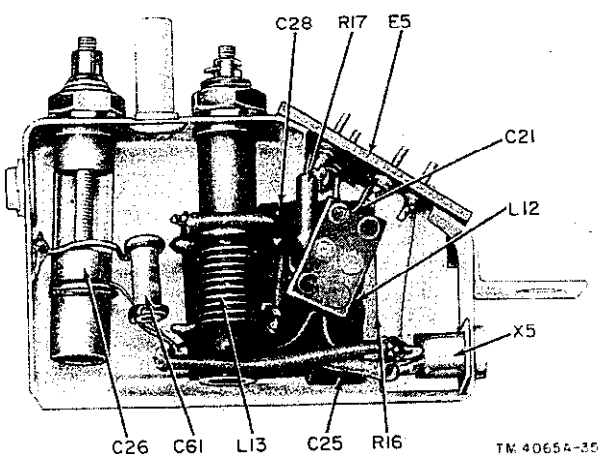

Figure 36. Second rf box U4, inside view.
- (1) Remove transmitter oscillator tube V3 as described in paragraph 63*c*.
- (2) Operate the TUNING control until the gang is fully meshed.
*Note.* If the gang is going to be replaced, apply the scissor-gear tension clip (fig. 40) to the gang scissor gear to maintain shear tension on the two sections of the scissor gear. An alternate method is to tie a small piece of bus wire between the two sections (bottom view fig. 36).